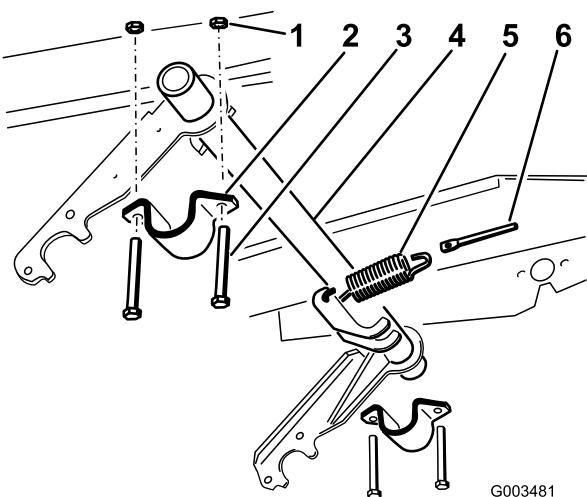

Figure 1
2. Remove the 2 bolts and nuts securing a pivot tube bracket to the frame (Figure 1). Remove the pivot tube bracket from the pivot tube.